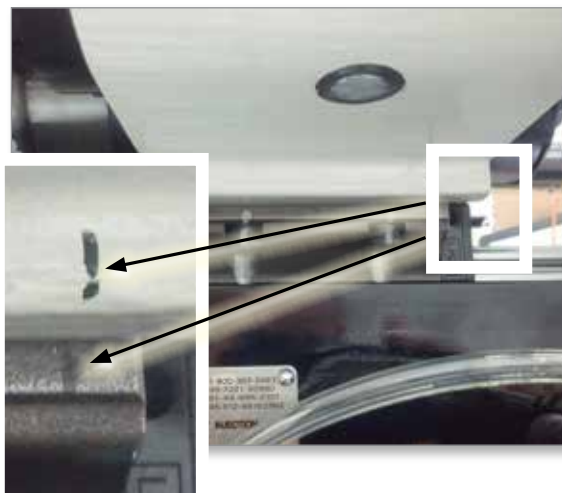

Figure 10-3 Linear guide position
18. Mark the position of the linear guide relative to the injection housing. See Figure 10-3.